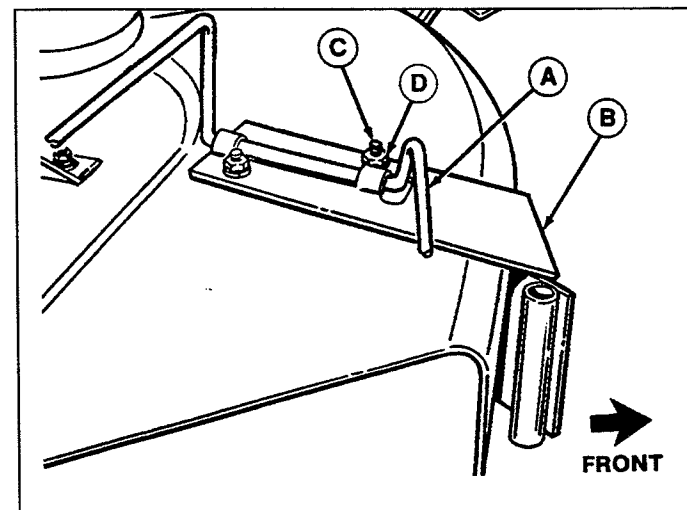

Figure 5.
11. See figure 5. Install the new deflector support rod (A) underneath the pivot bracket (B) and install bracket to deck. Secure bracket with two carriage bolts (C) from underneath deck and flange locknut (D) in front hole. Use whizlock screw (E) in rear hole.